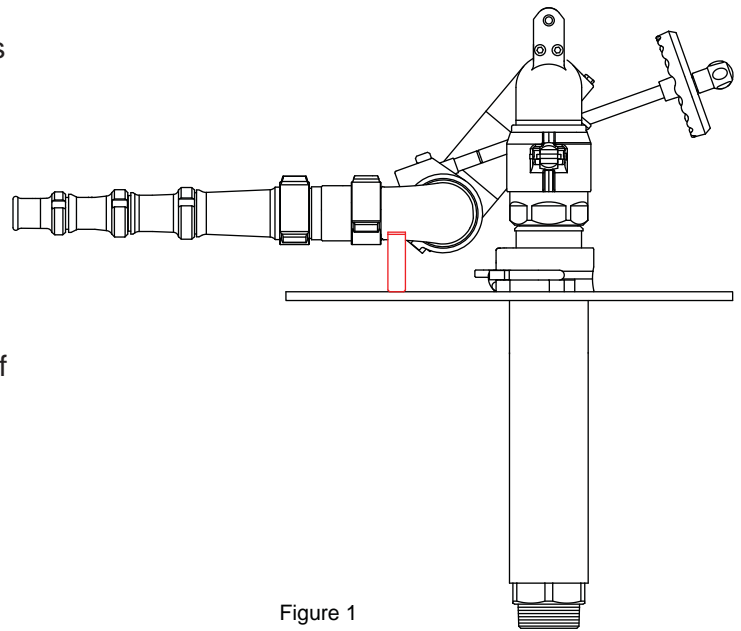

Figure 1
1. Determine stow position for monitor and nozzle as seen in Figure 1.